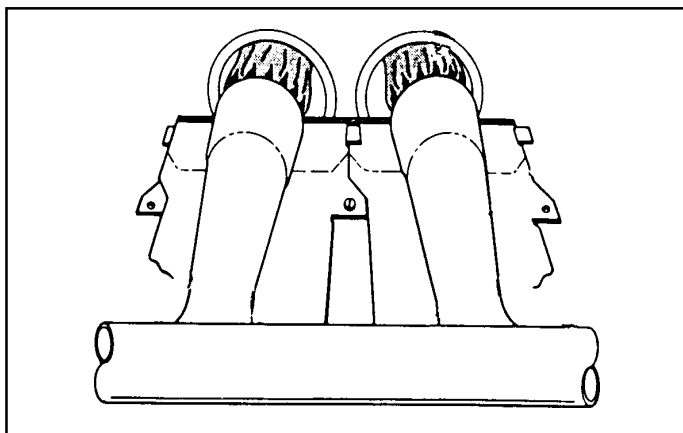

Figure 25. Burner Inspection
7. After the flame ignites, visually inspect the burner assembly to ensure that the flame is drawn directly into the center of the heat exchanger tube, as shown in Figure 25. The end of the flame will be out of sight around the bend of the heat exchanger tube. In a properly adjusted burner assembly, the flame color should be blue with some light yellow streaks near the outer portions of the flame.